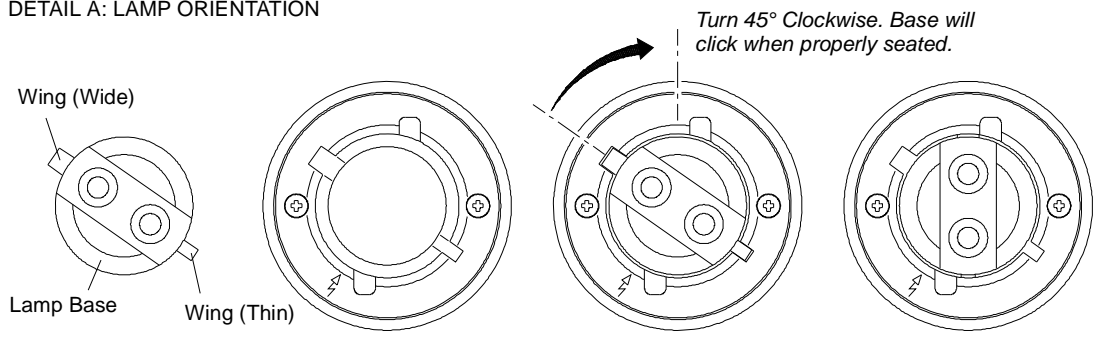

Figure 3-11: Replacing the Lamp
- Step 3. At rear of luminaire, rotate backcap counter-clockwise to remove (it will still be connected by a tether). Refer to **Figure 3-11** on next page.
- Step 5. Position new lamp as shown in **Figure 3-11** DETAIL A and insert into rear bulkhead. Rotate 45 degrees clockwise to lock in place. You will hear a click when properly seated.